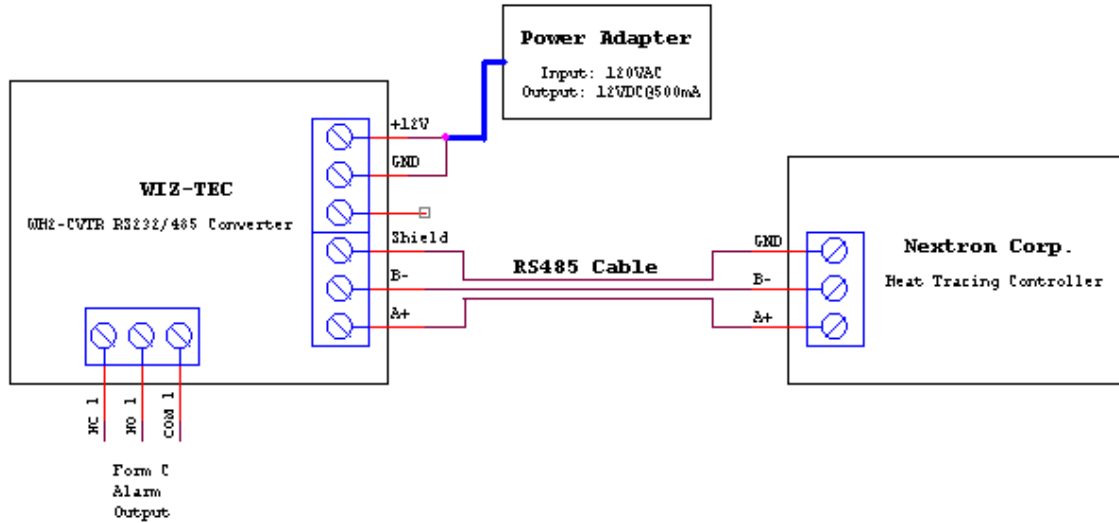

Figure 5 – RS232/RS485 Converter Wiring Diagram
(2) For a com port implemented by either a RS232 serial PCI card or a USB/RS232 serial converter, a RS232/RS485 converter is needed for communication signal conversion between each com port on the PC and the heat-tracing controllers. Make sure the wire connection is correct. Figure 5 is the wiring diagram for the RS232/RS485 converters from WIZ-TEC Computing Technologies Inc.